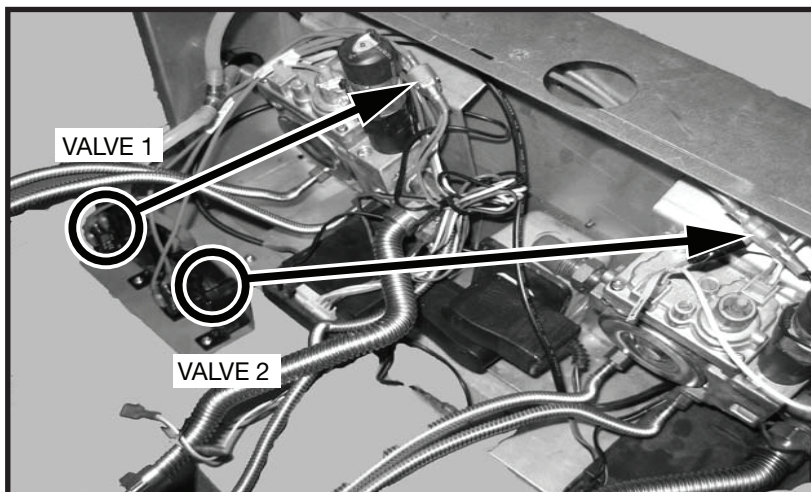

Figure 14: Connecting valves to pressure switches.
10. Connect the Orange wires from the pressure switch to the orange wires on both modules. Valve1 to left Module and Valve 2 to the right Module (Figure 14).